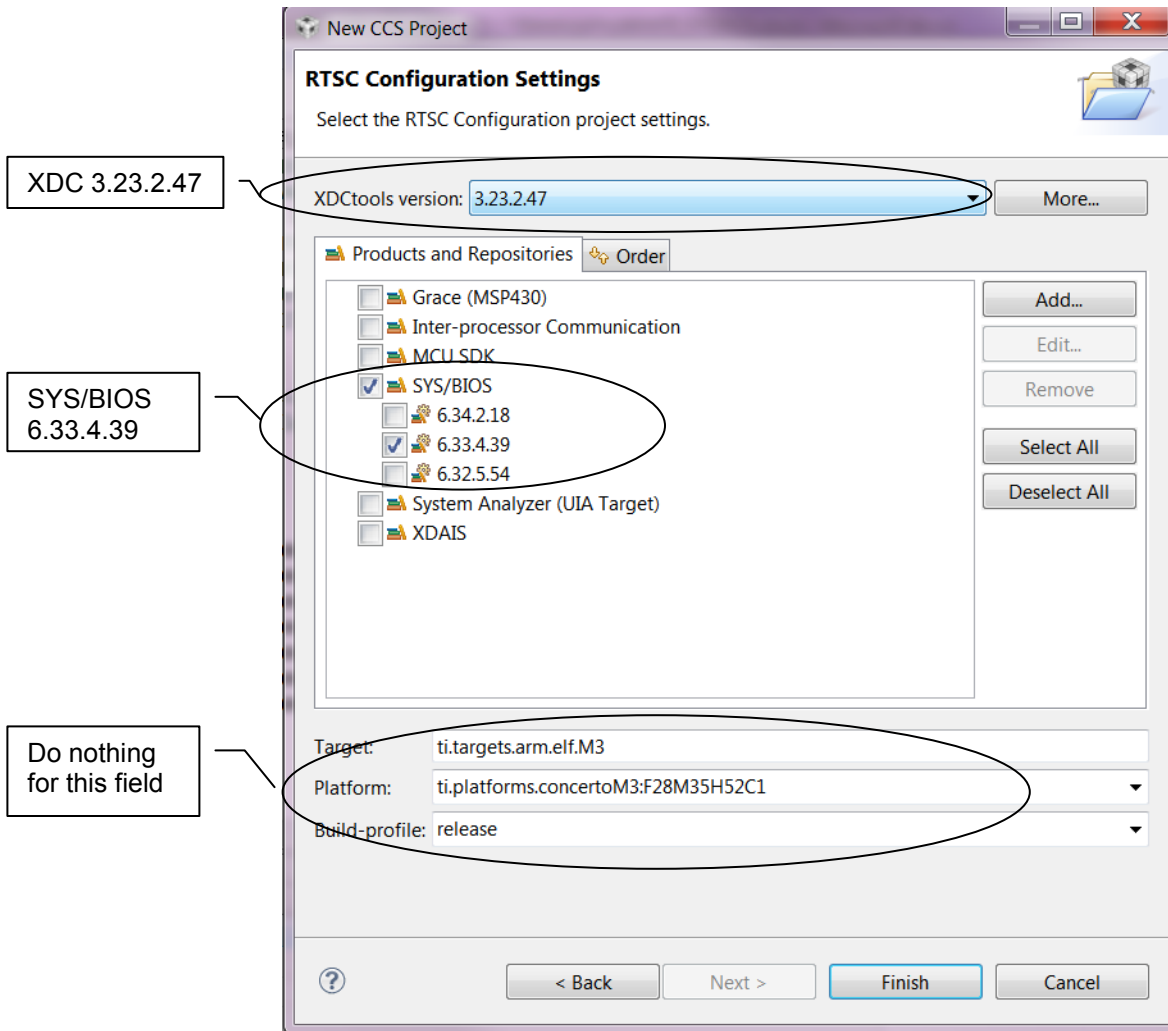

Figure 5. RTSC Configuration Settings for the SYS/BIOS Project
3. When all items are entered, the [Next>] button is enabled. Click the [Next>] button; the RTSC Configuration Settings are displayed, as shown in Figure 5.